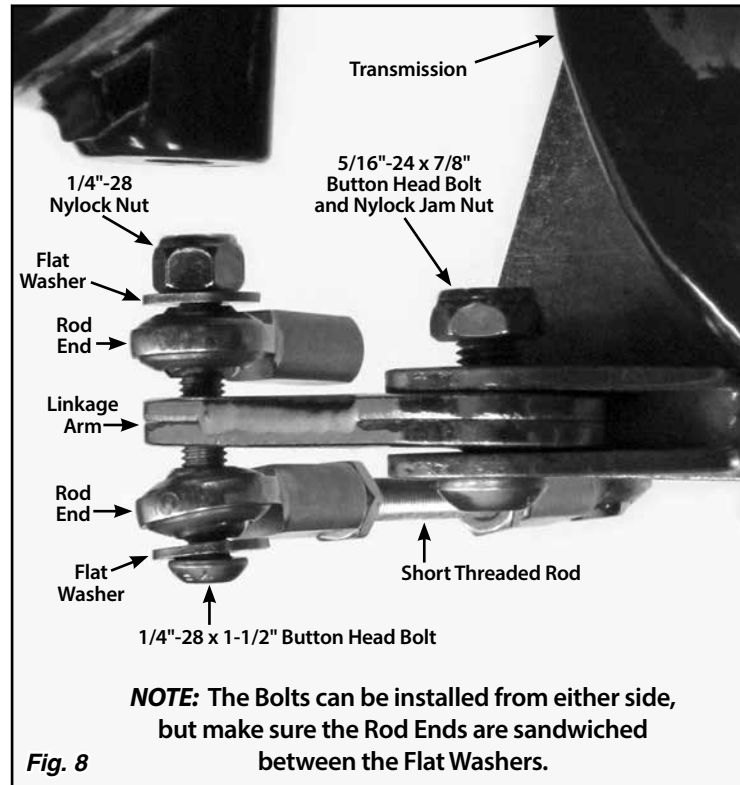

Fig. 8
**Step 10:** Verify the linkage arm and rod ends are assembled correctly, with the short threaded rod on the outside of the linkage arm, away from the transmission. **Fig. 8** If not, rearrange the parts as needed in order to match **Fig. 8**. The bolt can be installed from either side, but make sure there is a flat washer to the outside of each rod end. Tighten the 5/16"-24 x 7/8" button head bolt and nylock jam nut at the bottom of the linkage arm. Then, loosen the 5/16"-24 nylock jam nut just enough so the linkage arm can pivot freely.